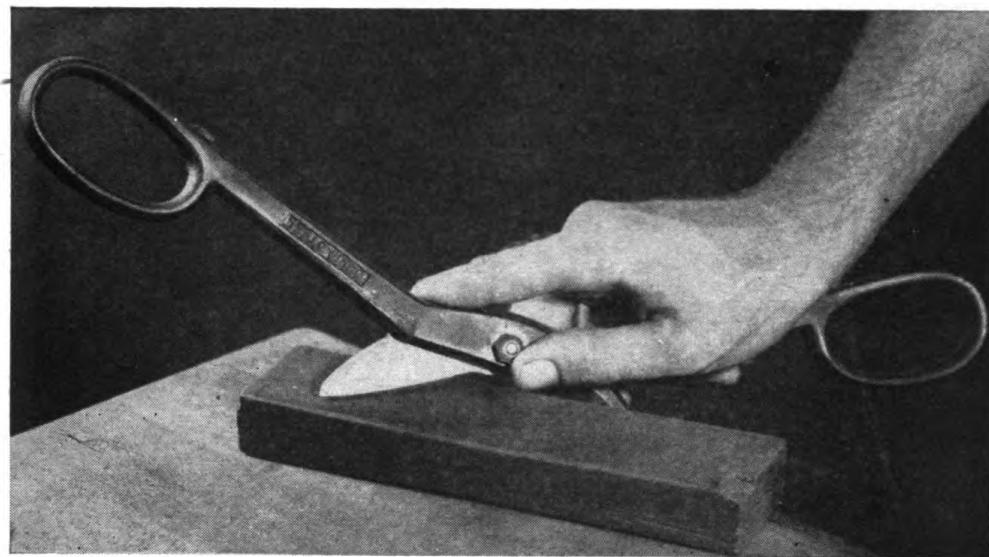

Figure 142. Sharpening snips.
(2) Snips cut with a shearing action. To function properly there should be no play between the blades, and the cutting edges should not be rounded off. Snips are sharpened by dressing with an oil stone. (See fig. 142.)